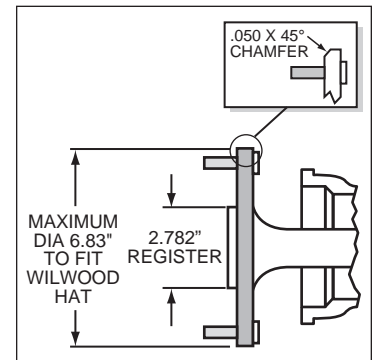

Figure 3. Axle Flange
- Maximum axle flange diameter must be no larger than 6.83" w/.050" x 45° chamfer (see Figure 3).